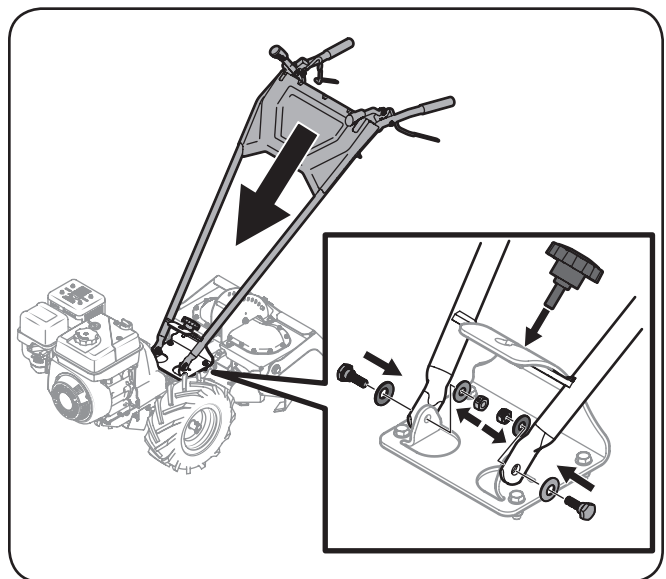

Figure 3-2
3. Using the shoulder screws, hex lock nuts, flat washers and Belleville washers from the hardware pack, mount the handle to the handle mount plate as shown in Figure 3-2.
4. Gently lift the handlebar and place the handlebar brace in the desired height position on the handle mount bracket and secure it in place with the star knob removed in Step 2. See Figure 3-2.